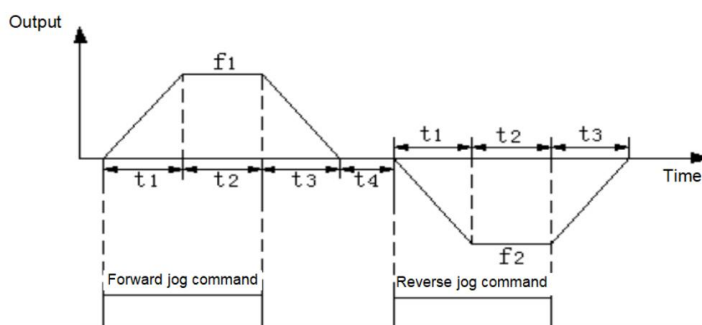

Figure 01-3 Jog operation diagram
01.09~01.12 define the relevant parameters during jog operation. As shown in Figure 01-3, t1 and t3 are the actual jog acceleration and deceleration time; t2 is the jog time; f1 is the forward jog operation frequency (01.09); f2 is the reverse jog operation frequency (01.10 ). The actual jog acceleration time t1 is determined according to the following formula: